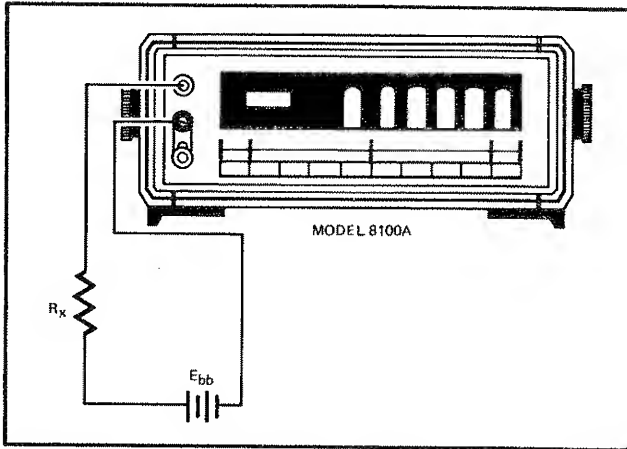

Figure 2-3. CIRCUIT CONNECTIONS FOR MEASUREMENT OF HIGH RESISTANCES
- a. Measure and record the external voltage,  $E_{bb}$ ; then connect the equipment as shown in Figure 2-3.